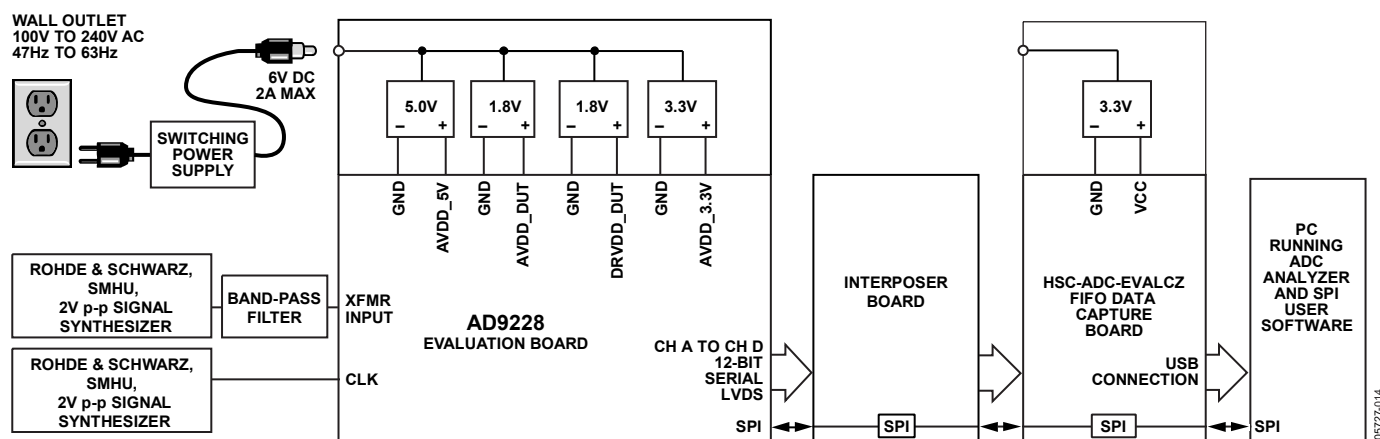
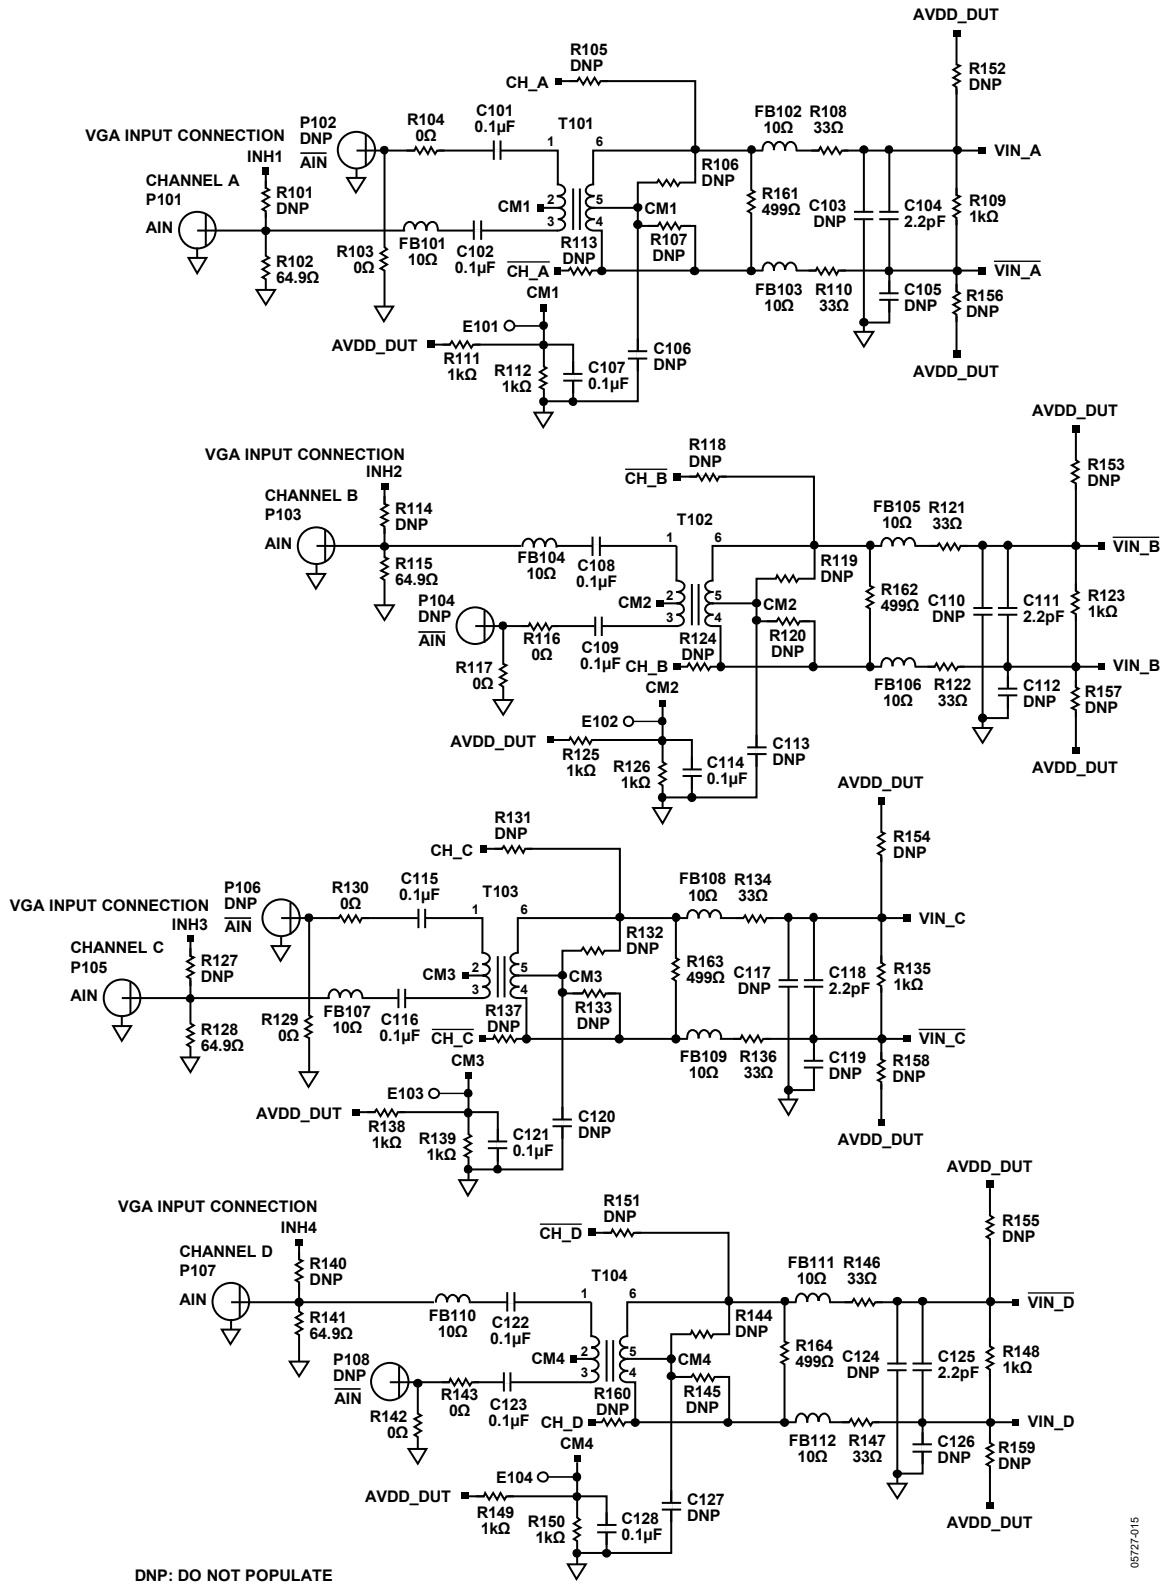
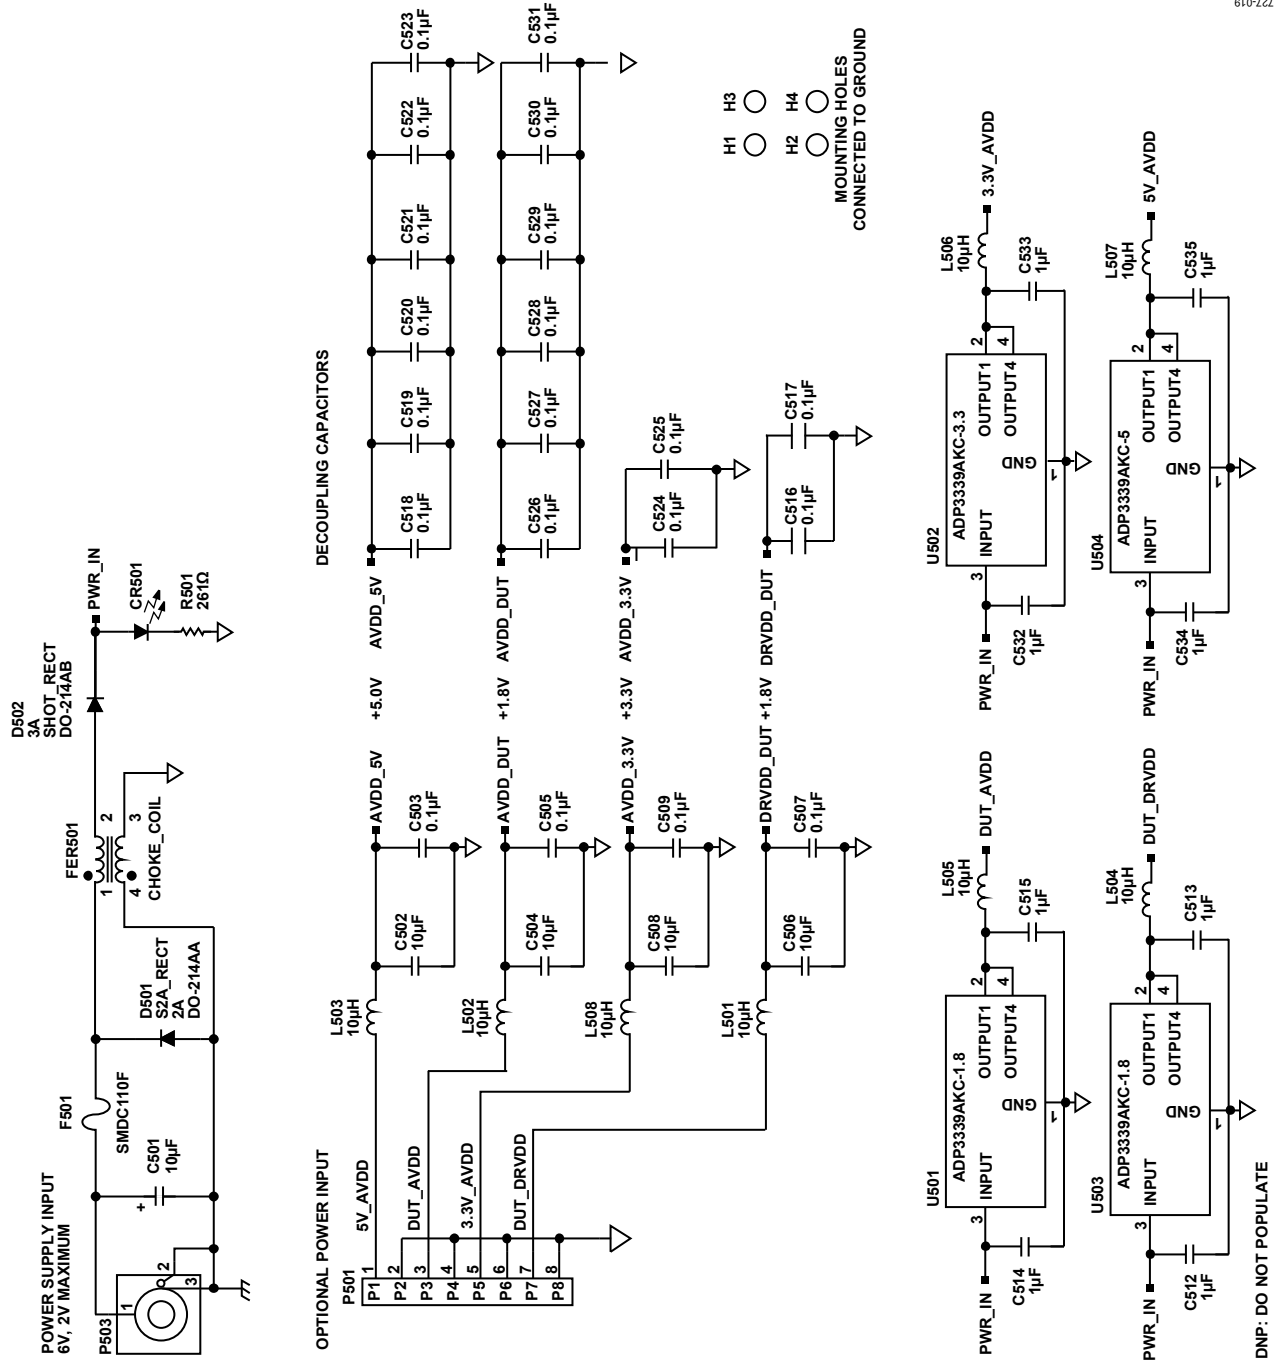
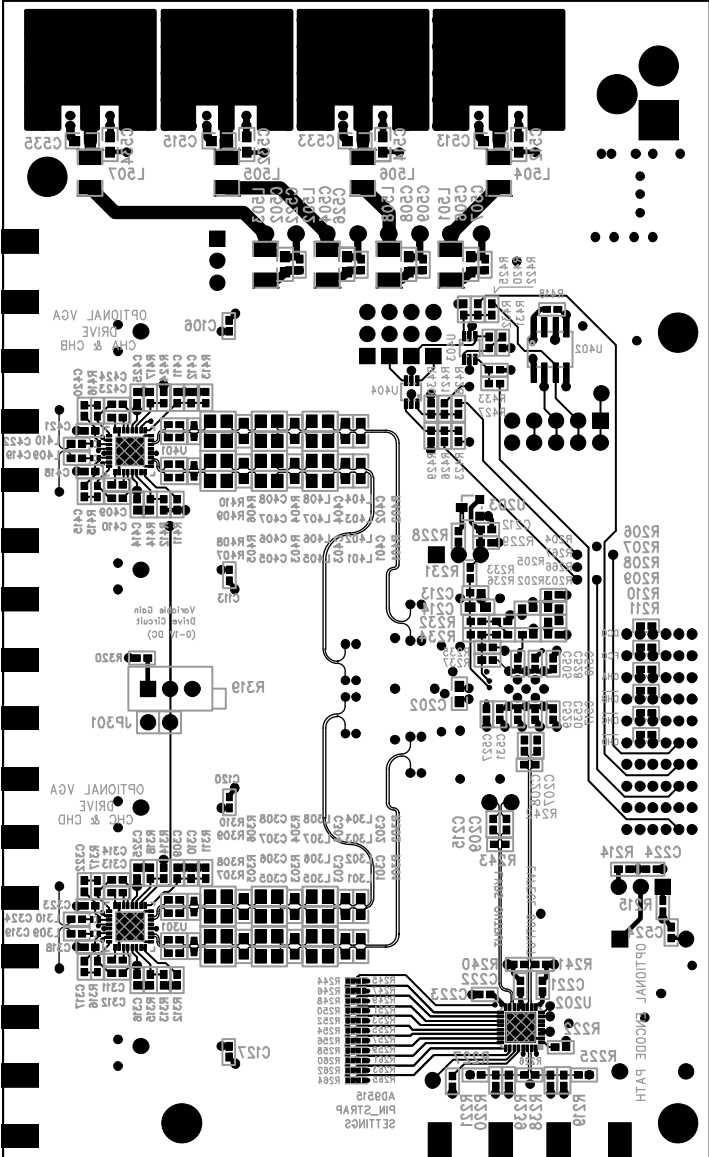

Figure 71. Evaluation Board Connection
Figure 73. Evaluation Board Schematic, DUT Analog Inputs
Figure 77. Evaluation Board Schematic, Power Supply Inputs
Figure 81. Evaluation Board Layout, Secondary Side (Mirrored Image)
The AD9228 evaluation board provides all of the support circuitry required to operate the ADC in its various modes and configurations. The converter can be driven differentially using a transformer (default) or an AD8332 driver. The ADC can also be driven in a single-ended fashion. Separate power pins are provided to isolate the DUT from the drive circuitry of the AD8332. Each input configuration can be selected by changing the connection of various jumpers (see Figure 73 to Figure 77). Figure 71 shows the typical bench characterization setup used to evaluate the ac performance of the AD9228. It is critical that the signal sources used for the analog input and clock have very low phase noise ( $<1$  ps rms jitter) to realize the optimum performance of the converter. Proper filtering of the analog input signal to remove harmonics and lower the integrated or broadband noise at the input is also necessary to achieve the specified noise performance.
See Figure 73 to Figure 81 for the complete schematics and layout diagrams demonstrating the routing and grounding techniques that must be applied at the system level.
- **D + x, D - x:** If an alternative data capture method to the setup shown in Figure 73 is used, optional receiver terminations, R206 to R211, can be installed next to the high speed backplane connector.